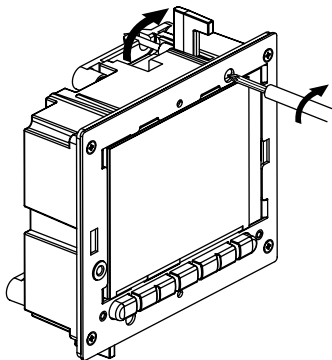

Figure 13
4. The TS-1 is equipped with two Mounting Clamps for easy installation. Hold the TS-1 firmly in the opening and use a Phillips screwdriver to turn each mounting-clamp screw to the right until the TS-1 feels fastened, as shown in Figure 13.
5. The TS-1 is equipped with two Mounting Clamps for easy installation. Hold the TS-1 firmly in the opening and use a Phillips screwdriver to turn each mounting-clamp screw to the right until the TS-1 feels fastened, as shown in Figure 13 on page 24.